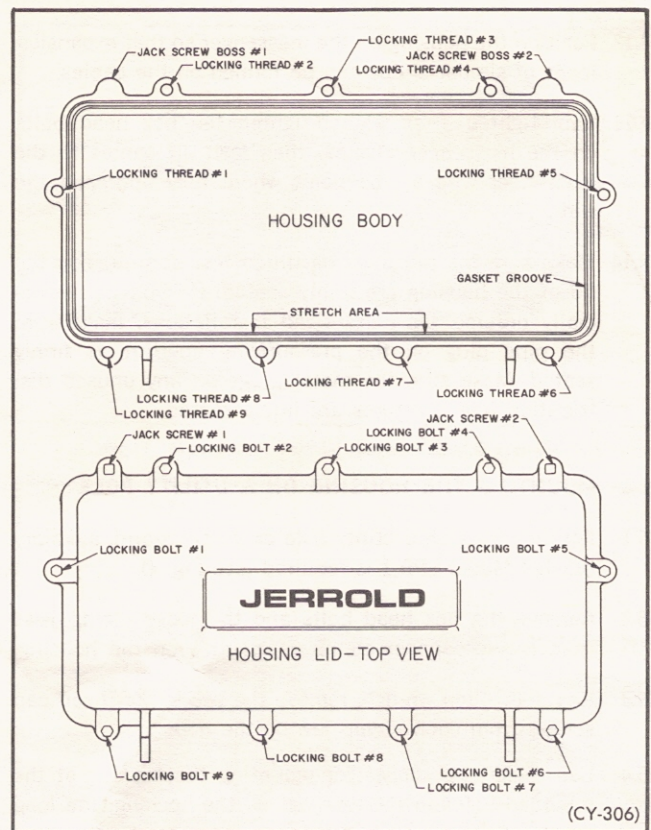

Fig. 6 Model SA-^VI Cast Iron Housing
- 7.4 Start by first inserting the center section of the rod in the area LOCKING THREADS #7 and #8 of the groove in the housing body. The sealant should be stretched somewhat in this area (see Fig. 6) so that an even spread will be achieved when the housing is closed under pressure.